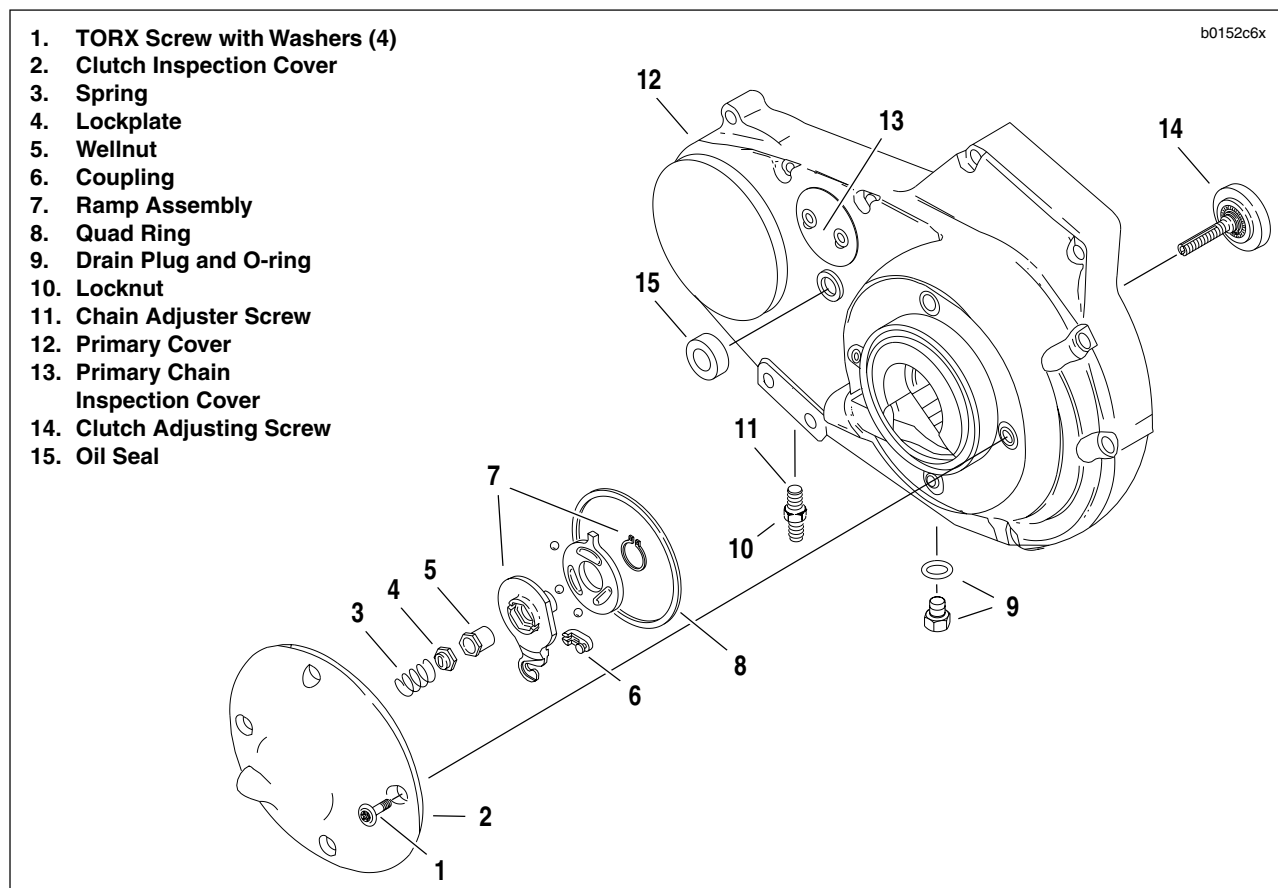
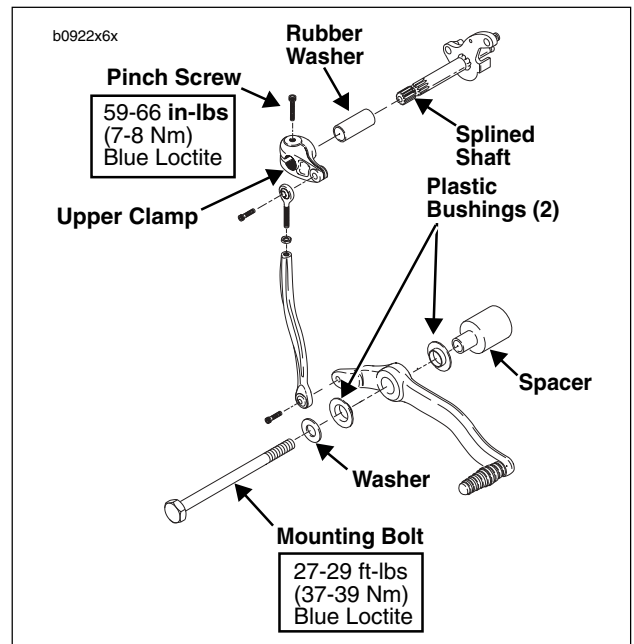

Figure 6-1. Primary Cover
Figure 6-5. Shifter Lever
4. See Figure 6-1. Place a drain pan under the engine. Remove drain plug (9) and drain lubricant from primary drive.
5. See Figure 6-5. Carefully remove lower shifter lever mounting bolt, washer, plastic bushings and spacer.
4. See Figure 6-1. Install **new** shifter lever oil seal (15).
5. Fit coupling (6) over cable end with rounded side inboard, the ramp connector button outboard. With retaining ring side of ramp assembly facing inward, place hook of ramp (7) around coupling button and rotate assembly counterclockwise until tang on inner ramp fits in slot of primary cover.
6. Thread wellnut (5) on adjusting screw (14) until slot of screw is accessible with a screwdriver. Fit wellnut hex into recess of outer ramp and turn adjusting screw counterclockwise.
10. See Figure 6-5. Apply **LOCTITE THREADLOCKER 243** (Blue) to shift lever mounting bolt.